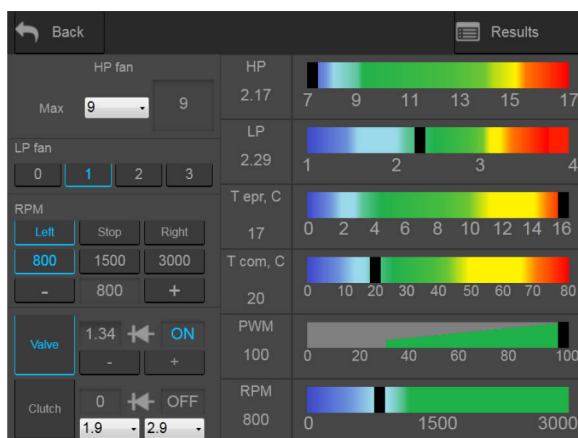

Figure 32. Test Bench settings for post-maintenance run of a compressor
3. Select «Manual mode». Make the test bench settings as shown in Fig.32. Set the level of the PWM signal on the electromagnetic valve as 100%.